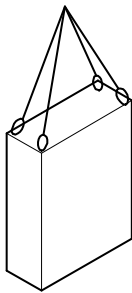

Fig. 7
1. Fasten ropes, belts or multiple-point suspension gear according to Fig. 7.